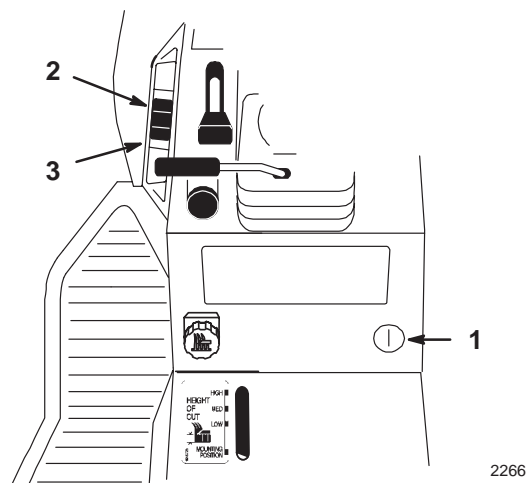

Figure 18
The attachment power lift (optional on some models) (Fig. 18) is used to raise and lower attachments.
1. Turn key to the “ON” or “RUN” position (Fig. 18).
2. Push the lift switch in the “UP” direction to raise the attachment lift (Fig. 18). This will lift and hold the attachment in the up, or raised position.
2. Push the lift switch in the “DOWN” direction to lower the attachment lift (Fig. 18). This will lower the attachment lift.